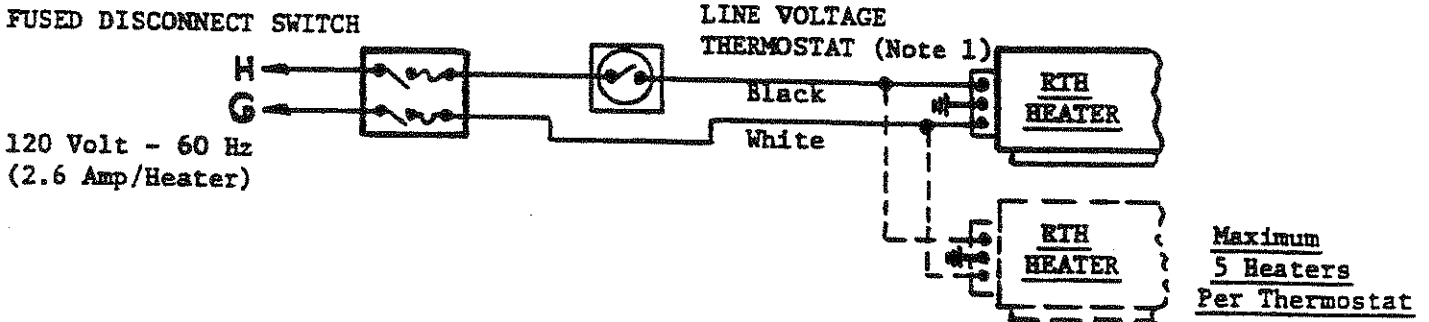
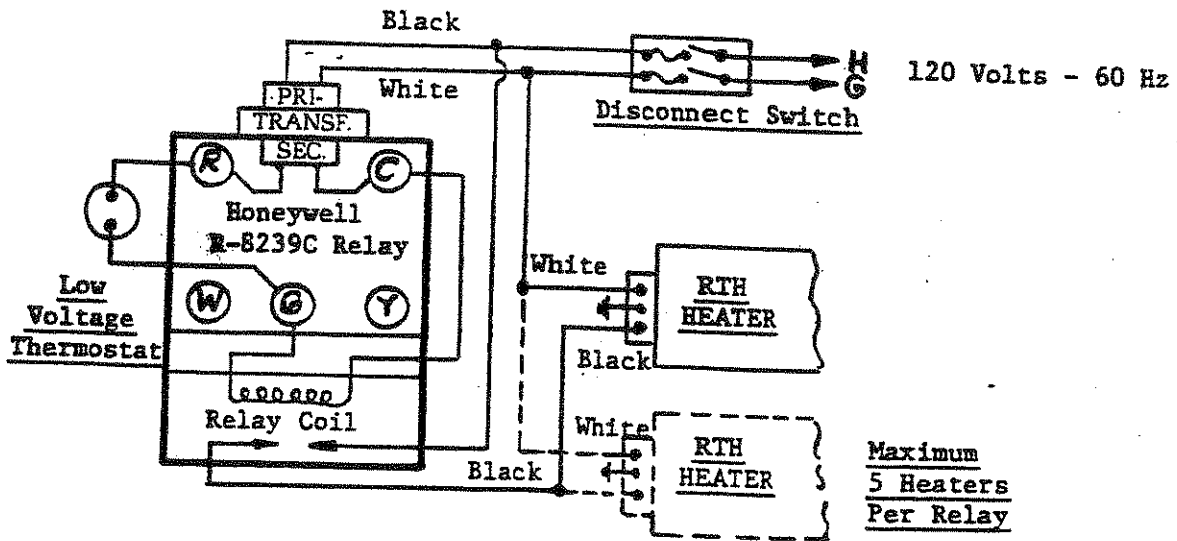

Fig. 4a - "Field" Wiring of Line Voltage Thermostat
Fig. 5a — "Field" Wiring of Low Voltage Thermostat and Relay
1. Heaters are normally controlled by thermostats (See Fig. 4a & 4b). Line voltage thermostats are wired directly; the recommended 24 volt thermostats use a relay per Figure 5a & 5b. Heaters must be grounded in accordance with National Electrical Code ANSI/NFPA 70-1984. Heaters can also be controlled with a manual line voltage switch or times switch in place of the thermostat.